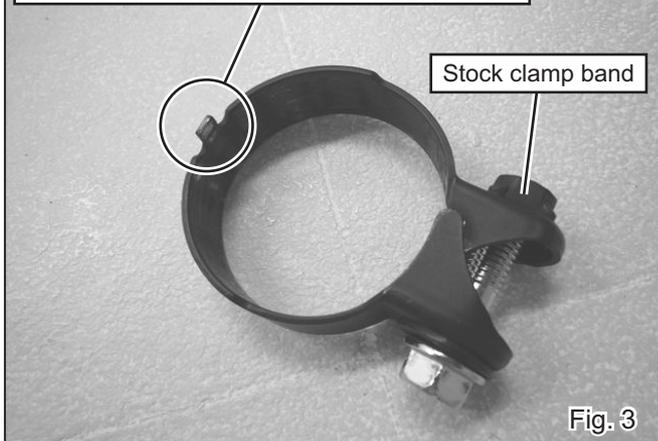

Fig. 3
- 4) Straighten the bent stopper on stock clamp band (See Fig. 3).